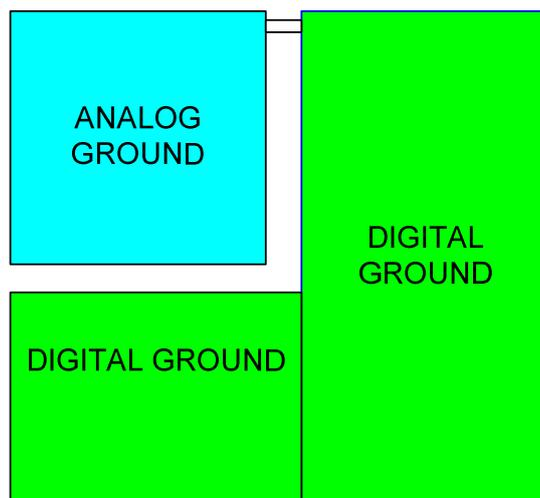

Figure 3
In order to reinforce anti-interference ability, VSS grounding is illustrated as Figure 3. Short analog and digital ground and it is better to place it close to the location of battery VSS.
- ✓ If it was used as external button, it is recommended referring to Figure 3 to layout its circuit when the button was gilded or made by metal.